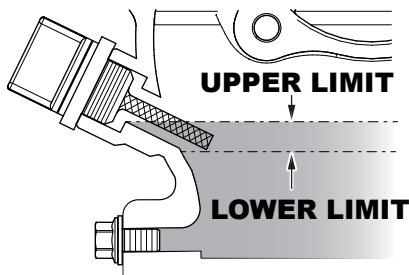

Figure 13. Engine Oil Dipstick(Oil Level)
4. If the oil level is low (Figure 13), fill to the edge of the oil filler hole with the recommended oil type (Table 8). Maximum oil capacity is 1.16 quarts (1.1 liters).